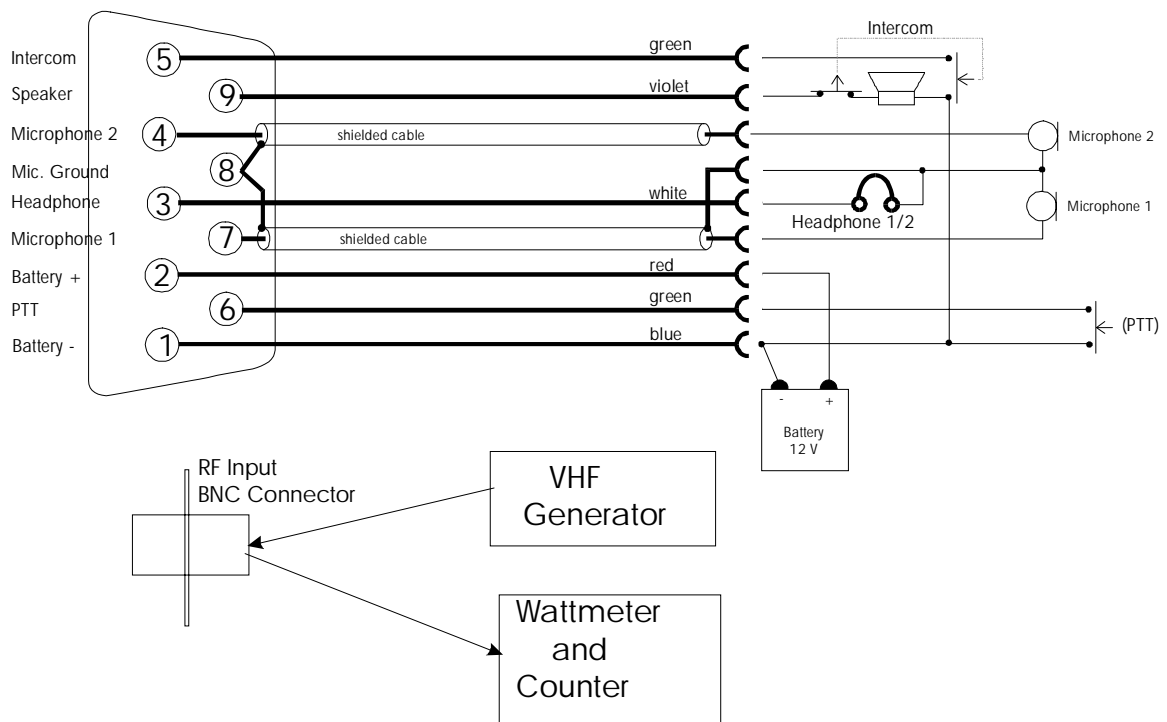

Figure 2-1 BENCH TEST SET UP
1. Connect the Comm Unit into the test set-up, diagramed in Figure 2-1, and set the DC supply for 13,75 VDC.
5. Disconnect the signal generator. Connect the RF wattmeter and frequency counter as diagramed in Figure 2-1.